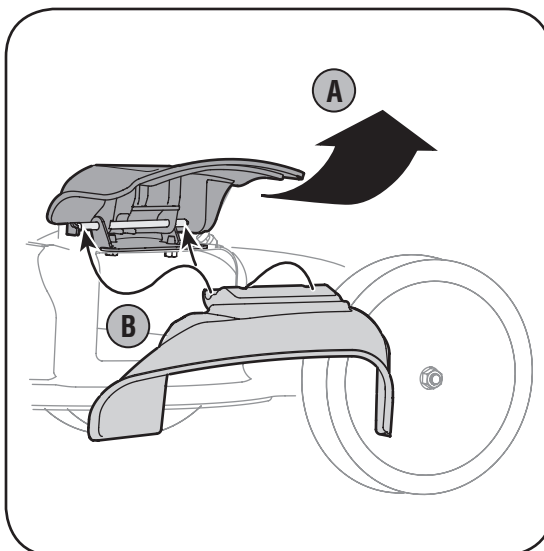

Figure 3-7: Lift mulch plug and install side discharge chute.
- b. Slide chute hooks under hinge pin on mulching plug assembly. Lower mulching plug, Figure 3-7. Do not remove side mulching plug at any time, even when you are not mulching.